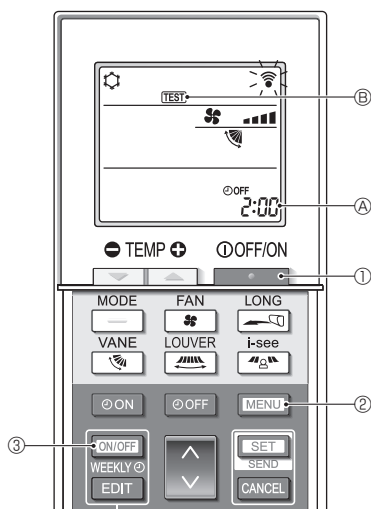

Fig. 7-5
■ Test run (Fig. 7-5)
- Press the [ON/OFF] button ① to stop the air conditioner.
- If the weekly timer is enabled (WEEKLY is on), press the [ON/OFF WEEKLY] button ③ to disable it (WEEKLY is off).
- Press the [MENU] button ② for 5 seconds.
- Press the [MENU] button ②.